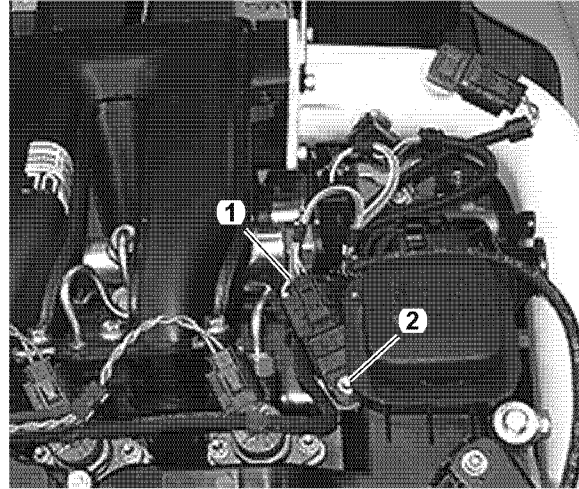

Figure 12-29
1. Disconnect harness connector (1, **Figure 12-29**).
2. Remove screw (2, **Figure 12-29**) and remove camshaft sensor.